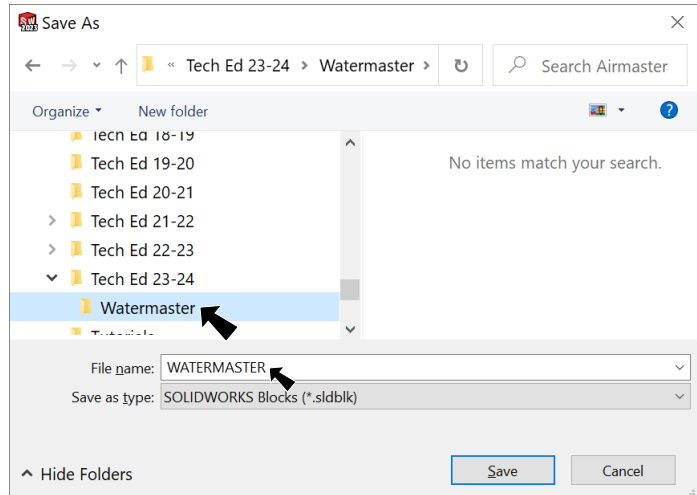

Fig. 71
Step 3. In the Save As dialog box, **Fig. 71** key-in **WATERMASTER** for the filename navigate to **Documents\Tech Ed 23-24\Watermaster** click Save button.